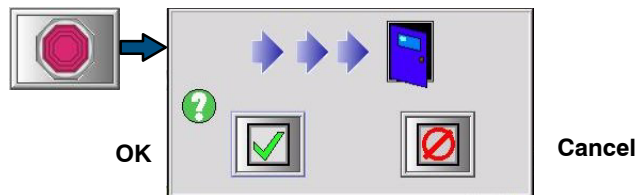

Figure 3-31 Shutdown Confirmation Screen
2. See Figure 3-31. The iControl Shutdown Confirmation screen appears. Touch the **OK** button to confirm that you want to shutdown the iControl program. Touch the **Cancel** button if you change your mind.